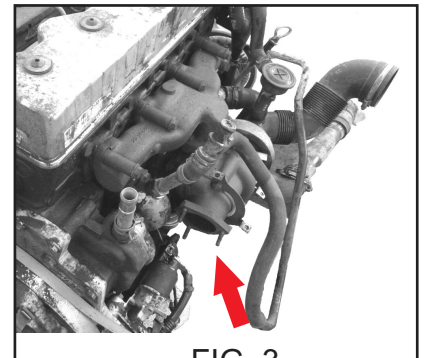

FIG. 3
- ① The next step is to drain the coolant circuit.
- ② Remove the catalytic converter to gain access to water pump cover (FIG. 3).